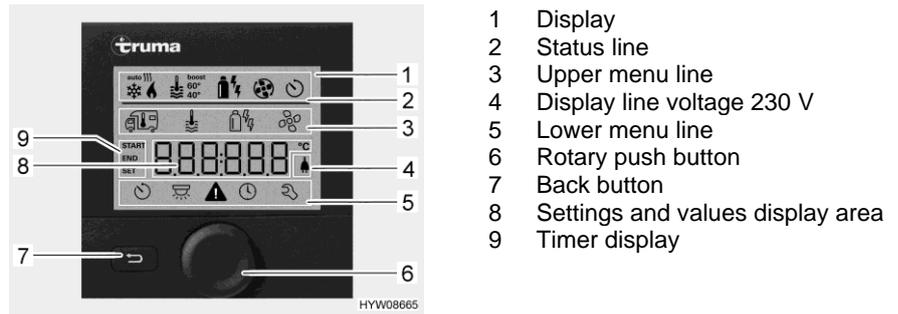
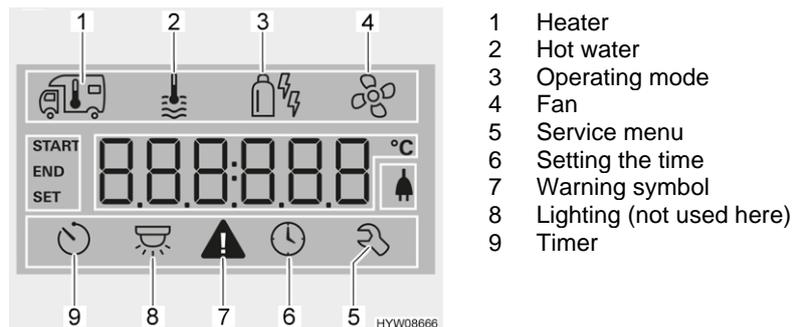

Fig. 115 Operating unit with displays
Fig. 116 Display (operating unit)
- Status line (Fig. 115,2)
- Upper menu line (Fig. 115,3)
- Display area (Fig. 115,8)
- Lower menu line (Fig. 115,5)
- Press and hold the rotary push button (Fig. 115,6) for approx. 3 seconds. Both menu lines (Fig. 115,3 and Fig. 115,5) are displayed. The first symbol flashes.
- Turn rotary push button (Fig. 115,6) until the required menu symbol flashes.
- Press rotary push button to save the value set. If you do not wish to change the value originally set: Press back button (Fig. 115,7).
- Turn rotary push button (Fig. 115,6) until the heater menu symbol (Fig. 116,1) flashes.
- Press rotary push button to save the value set. The symbol in the status line (Fig. 115,2) flashes until the room temperature set is reached. If you do not wish to change the value originally set: Press back button (Fig. 115,7).
- Turn rotary push button (Fig. 115,6) until the hot water menu symbol (Fig. 116,2) flashes.
- Press rotary push button to save the value set. The symbol in the status line (Fig. 115,2) flashes until the hot water temperature set is reached. If you do not wish to change the value originally set: Press back button (Fig. 115,7).
- Turn rotary push button (Fig. 115,6) until the menu symbol operating mode (Fig. 116,3) flashes.
- Press the rotary push button to save the set operating mode. To revert to the original setting: Press back button (Fig. 115,7).
- Turn rotary push button (Fig. 115,6) until the fan menu symbol (Fig. 116,4) flashes.
- Turn rotary push button (Fig. 115,6) until the timer menu symbol (Fig. 116,9) flashes.
- Press rotary push button. The timer is activated. The timer symbol (Fig. 116,9) flashes when the timer is programmed and active.
The warning symbol (Fig. 116,7) flashes in the event of a warning. The heater continues to operate. In the event of only a temporary fault, the warning symbol goes out automatically.